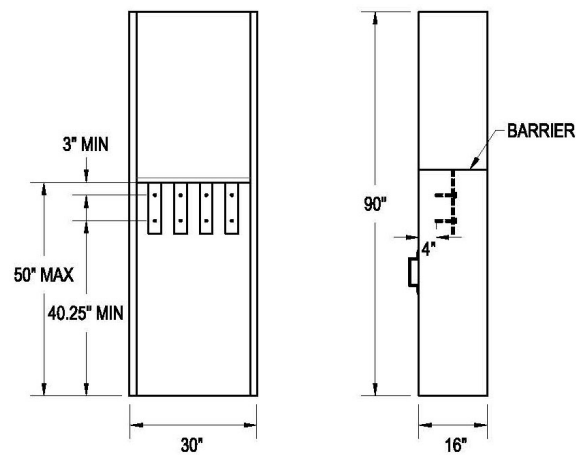

Figure 103. Termination Section of an Indoor Switchboard (EUSERC 327) (STD-D-6252)
- For services up to 2000A, switchboard CT metering compartment or main disconnect may be located above termination/pull section (EUSERC 327) as shown in Figure 103.